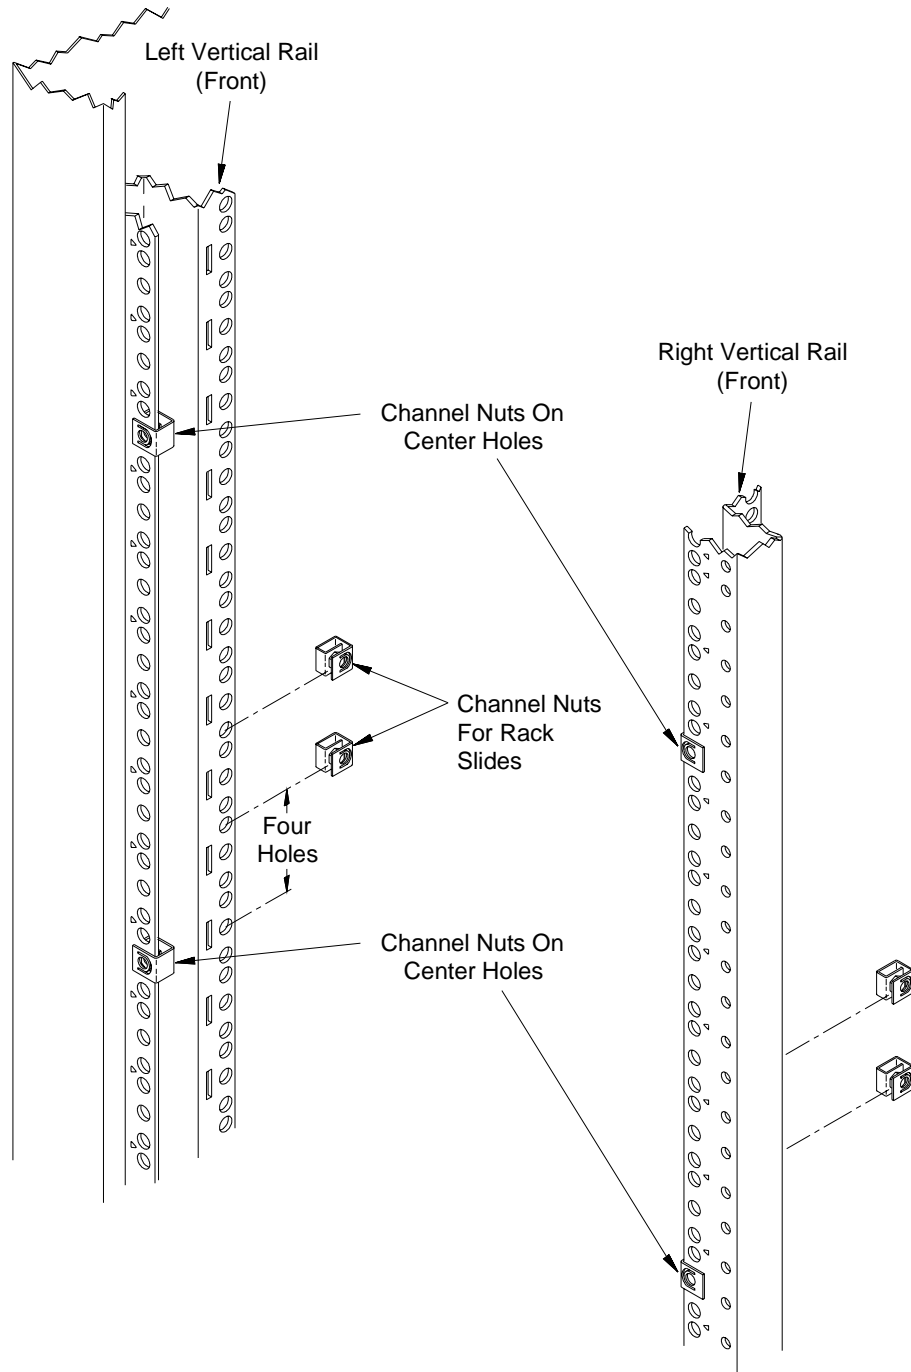

Figure B-7. Positioning the Rack Slides (using Option 923 - standard adapters).
4. From the bottom channel nut inserted in Step 3, count up four holes. Slide a channel nut over the corresponding hole on the inside vertical rail (Figure B-7). Install a second channel nut on the inside rail four holes above the first nut. Repeat for the other rail. Install channel nuts on the corresponding holes on the rear inside rails.